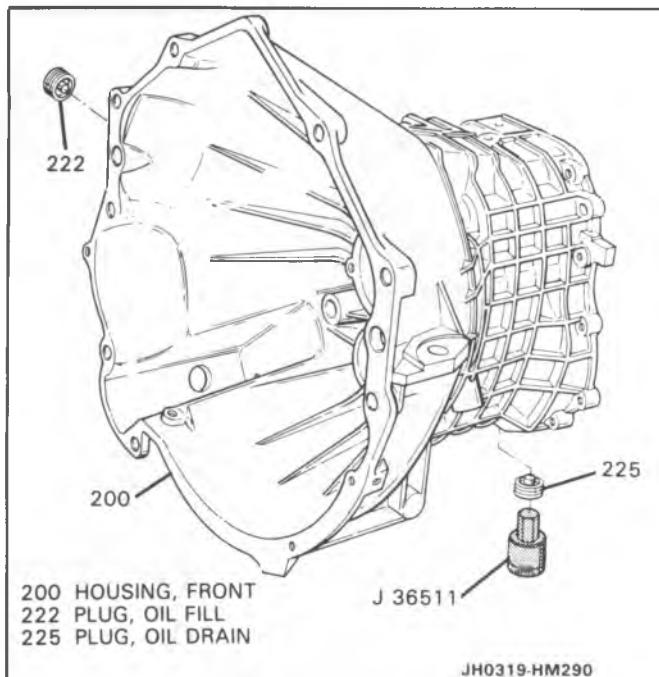

Figure 46 Removing Drain/Fill Plugs
13. Breather assembly (223).
14. Oil fill plug (222) and oil drain plug (225), using J 36511 (Figure 46).